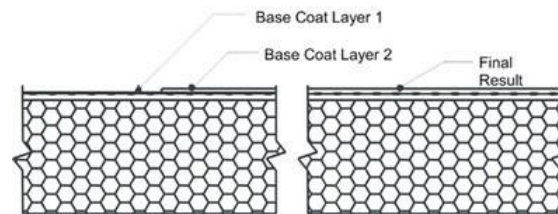

Fig. 31
- ii. Immediately place the reinforcing mesh against the wet Dryflex mixture. With the curve of the mesh against the wall, trowel from the center to the edges, avoiding wrinkles, until the mesh is fully covered and not visible. The overall minimum base coat thickness shall be sufficient to fully embed the reinforcing mesh. The recommended method is to apply the base coat in two (2) passes. NOTE: The reinforcing mesh can be continued across the transition from Dryflex base coat to standard base coat.
1. The Base Coat shall be applied such that the resulting overall minimum base coat thickness is sufficient to fully embed the reinforcing mesh. The recommended method is to apply the base coat in two (2) passes.
- c. Allow the Dryvit Base Coat mixture to take up until firm to the touch. Trowel a second tight coat of the Dryvit Base Coat mixture over the first coat to fully cover the Dryvit Reinforcing Mesh - Figure 31. The result should be such that the Dryvit Reinforcing Mesh is approximately centered within the Dryvit Base Coat thickness. Do not allow the first pass to completely dry prior to the second pass application or an excessive amount of the Dryvit Base Coat mixture will be necessary to fully coat the wall surface.